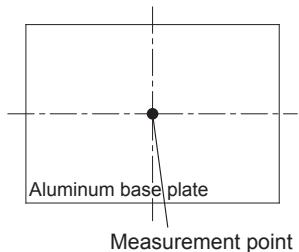
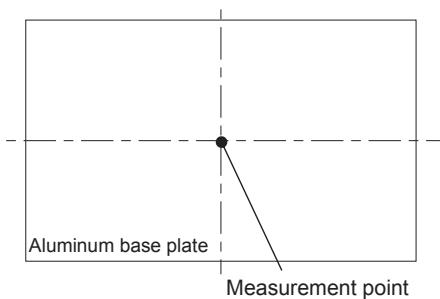

Fig.8.2.11 Measurement point (CHS120 option "B" and "BC")
Fig.8.2.13 Measurement point (CHS400/CHS500/CHS700 option "B")
- For option "B" which is used with the convection cooling, forced air cooling or conduction cooling, use the temperature measurement location as shown in Fig.8.2.11 to Fig.8.2.13.